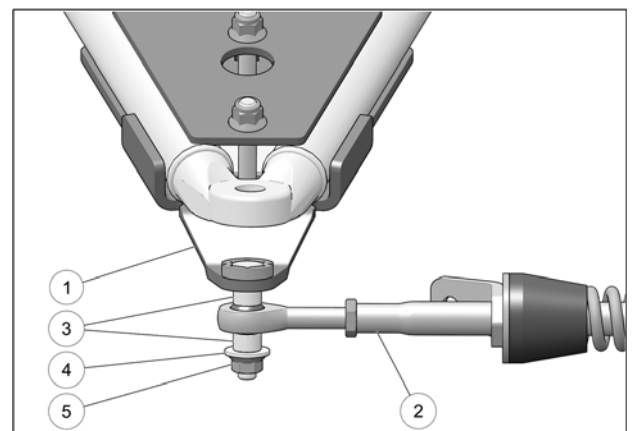

Fig. 29
12. Attach the stabilizing rod (2) to the anchor bracket (1), using the two spacers (3), washer (4), and nut (5). Torque to 70 N•m [52 lb•ft]. See Fig. 29